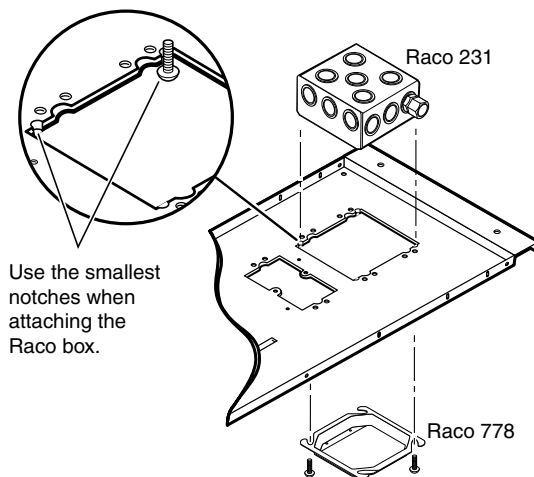

Figure 5 — Install Racco box and plaster ring
- a. **Attach the box to the plate**, using the smallest notches in opposite corners of the cut-out (see figure 5). Do not tighten the screws fully at this time.